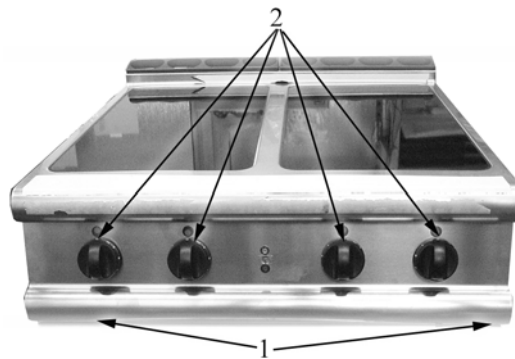

Fig. 7
- Remove the knobs (pos. 2 Fig. 7).
- Loosen the fixing screws to remove the control panel (pos. 1 Fig. 7).